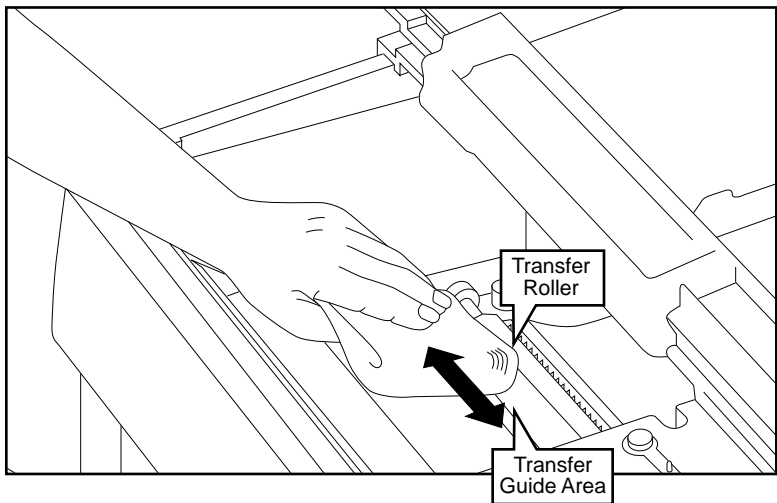

Fig. 8.3 Cleaning the Transfer Guide Area
4. Wipe off any dust, toner, or paper residue in the silver colored metal strip in the transfer guide area (fig. 8.3) using a soft, dry, lint-free cloth.